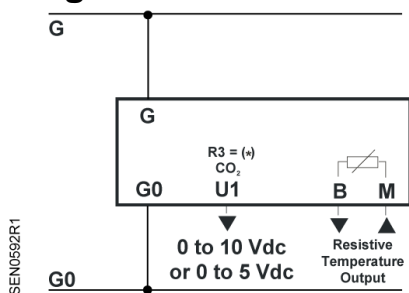
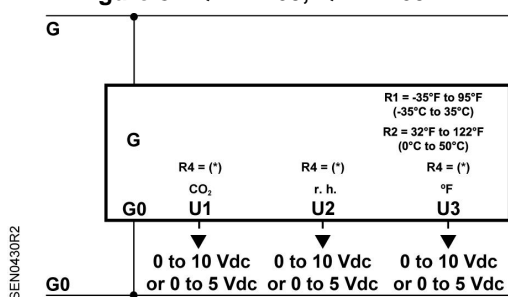

Figure 7. QPM2180.
Figure 10. QPM2162, QPM2162D.
- f. Connect the field wiring to the sensor terminal block on the base. See Figure 7 through Figure 10 for wiring diagrams.